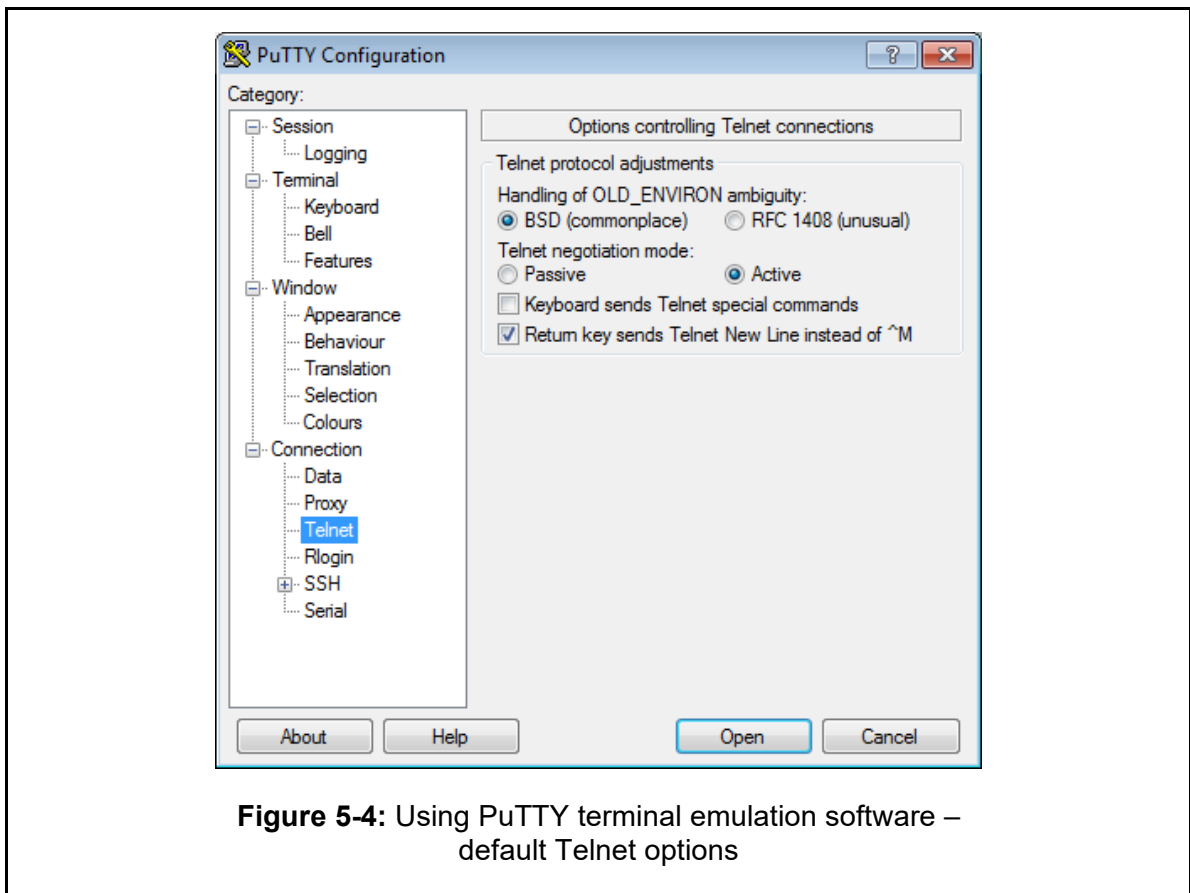

Figure 5-4: Using PuTTY terminal emulation software – default Telnet options
- 3- Accept the default PuTTY Telnet session options, as shown in Figure 5-4.